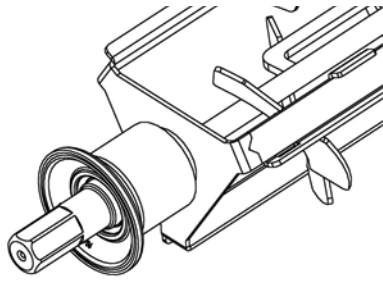

Figure 3-7 Install Rear Seal
- B. Assemble the rear seal onto the auger with the large end to the rear. Be sure the o-ring is in place before installing the rear seal (Refer to Figure 3-7).